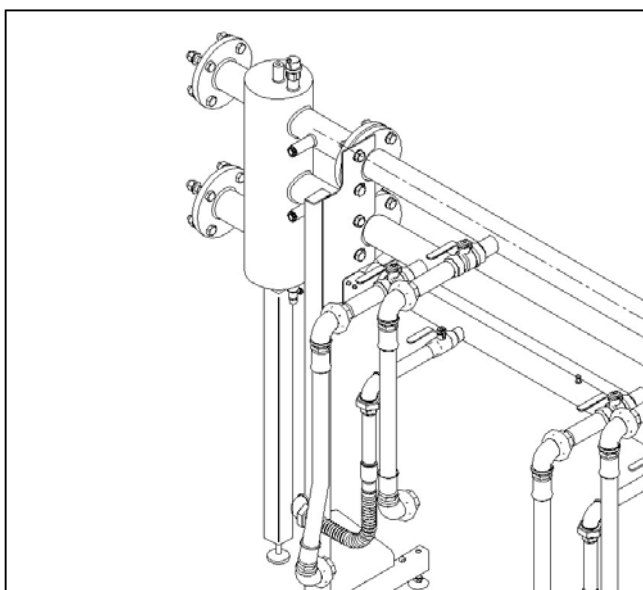

Figure 5.8 Assembly Of Low Loss Header
5.21 Where required fit the sensor spool kits to the flow & return flanges of the pipe kit. See Figure 5.8, or assemble a low loss header to the end pipe kit for connecting to system pipe work See Figure 5.8.